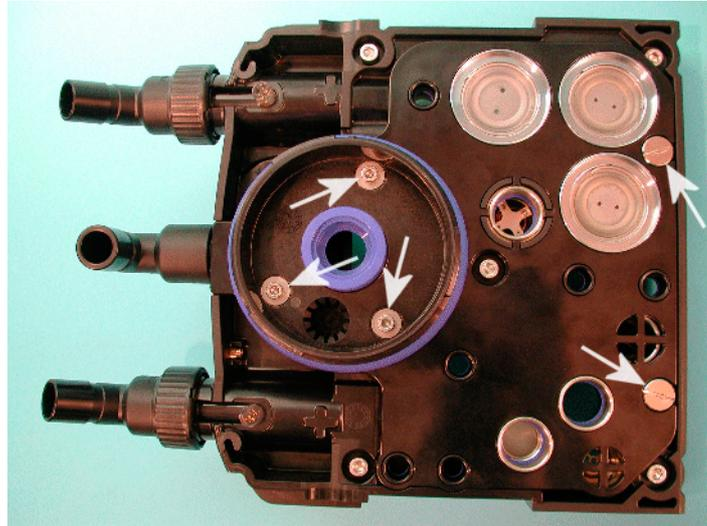

Figure 8 Plate fixing screws
1. Unscrew the 5 screws marked with arrows in Figure 8.